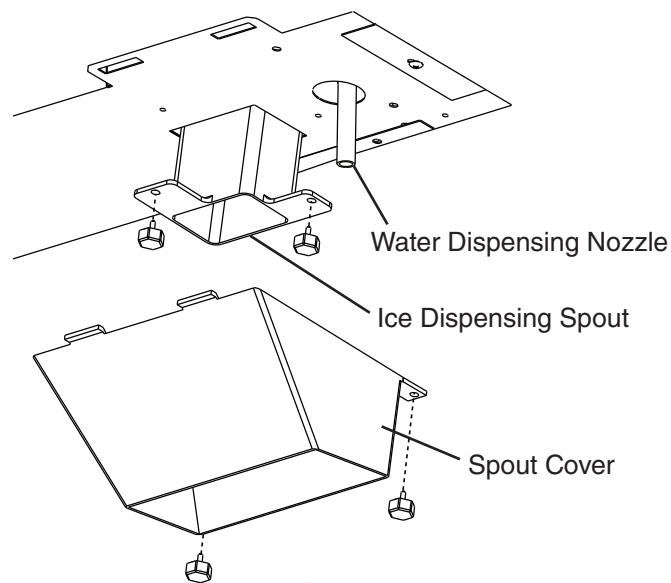

Fig. 9
- 8) Remove the spout cover, ice dispensing spout, and water dispensing nozzle. See Fig. 9.